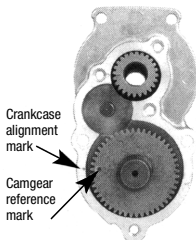

Figure 8
b. Locate the cam gear reference mark and align it with the crankcase mark. See **Figure 8**.